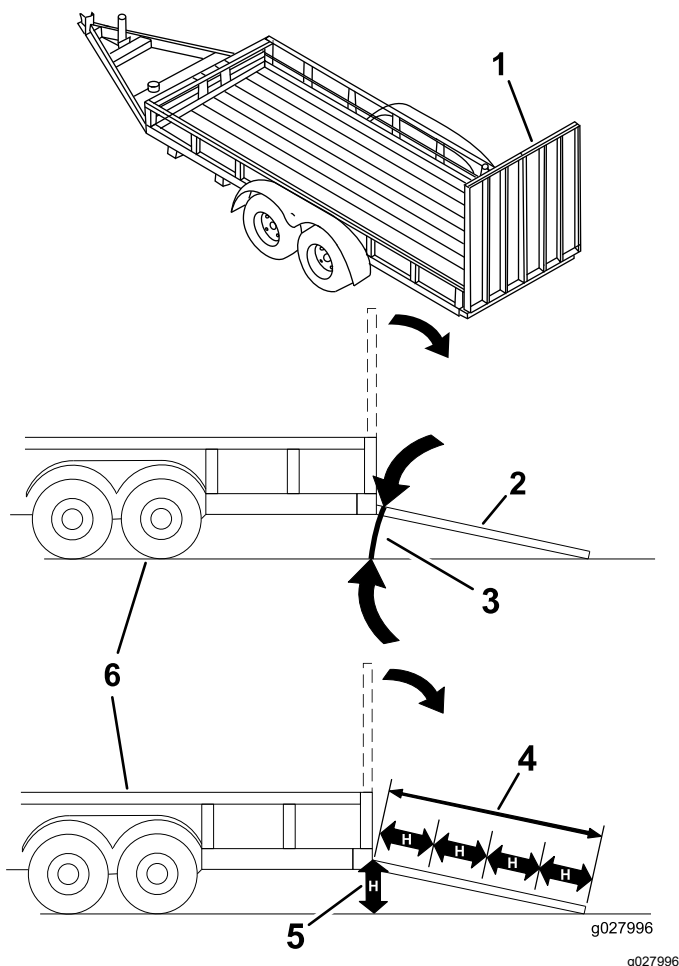

Figure 32
**Loading a machine onto a trailer or truck increases the possibility of tip-over and could cause serious injury or death (Figure 32).**
3. Lower the ramp, ensuring that the angle between the ramp and the ground does not exceed 15 degrees (Figure 32).
1. Lower the ramp, ensuring that the angle between the ramp and the ground does not exceed 15 degrees (Figure 32).